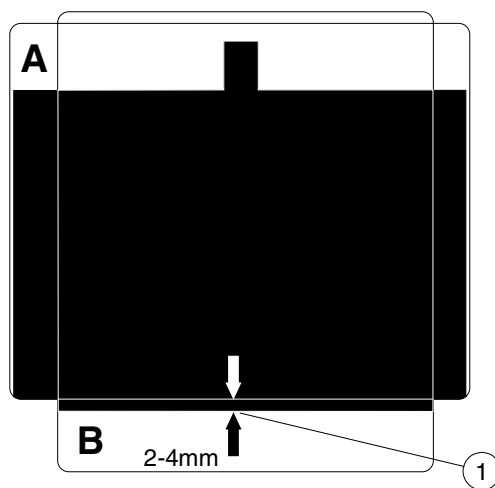
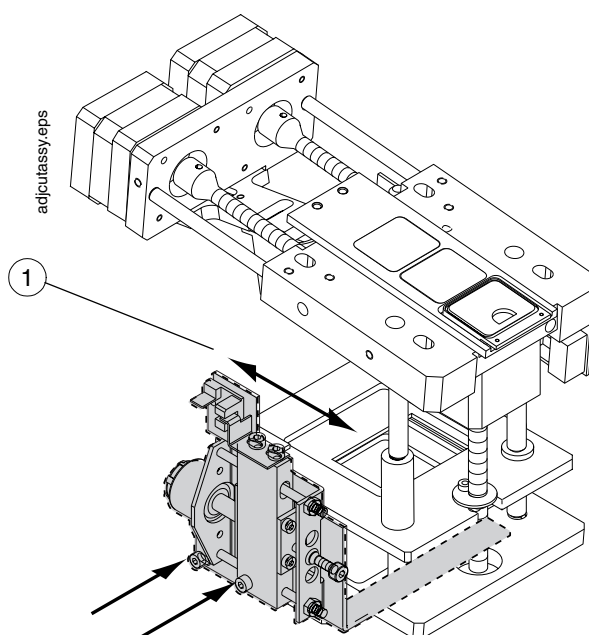
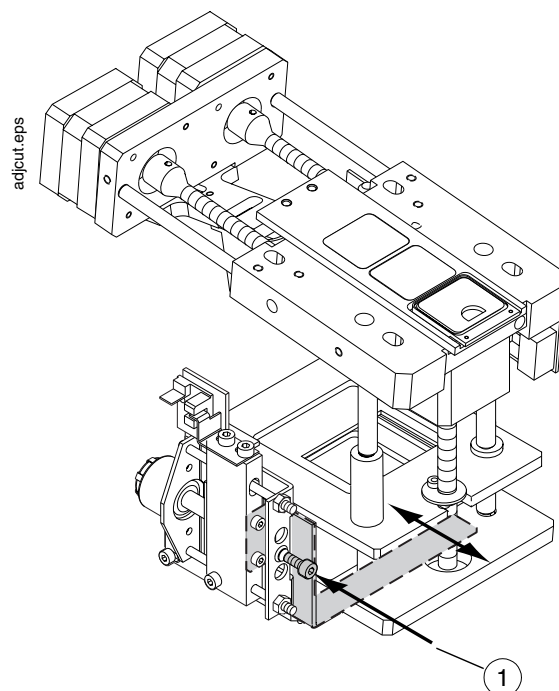

Figure F.14
Figure F.15
Figure F.16
- h) If needed, the front edge adjustment for **large** focal spot is performed by adjusting the cutter assembly position (Fig. F.15, 1). Loosen the cutter assembly screws and adjust the assembly position so that the area that has exposed over the cassette table front edge is between 2 mm - 4 mm (see Fig. F.14 on previous page).
- b) If needed, the front edge adjustment for **small** focal spot is performed with the stop screw on the cutter assembly (Fig. F.16, 1). Adjust the cutter position so that the area that has exposed over the cassette table front edge is between 2 mm - 4 mm (see Fig. F.14 on previous page).